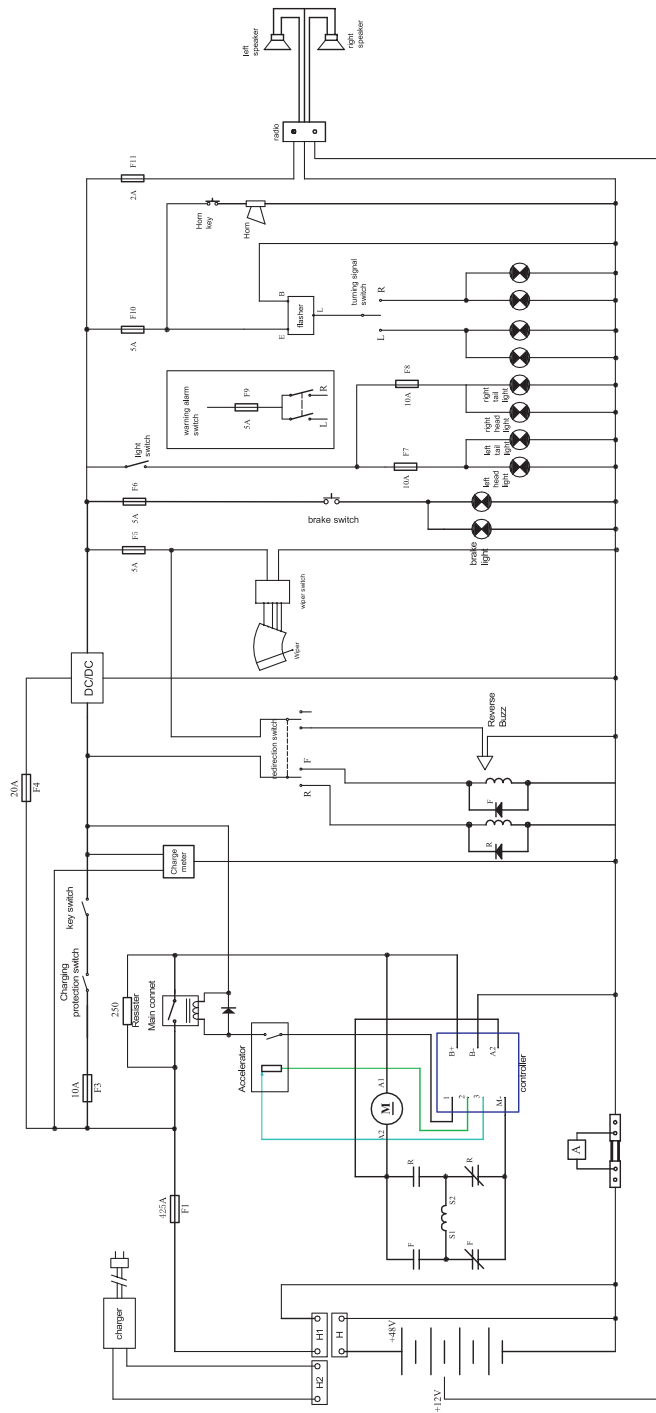

FIG.1
1)Wiring diagram for vehicle 48V with Curtis Controller 1204 (FIG. 1)